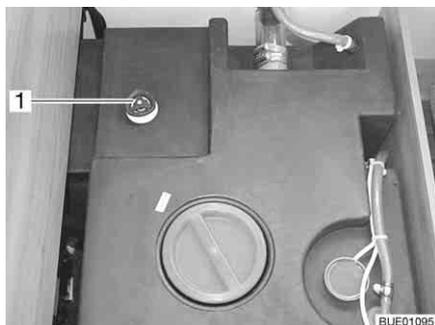
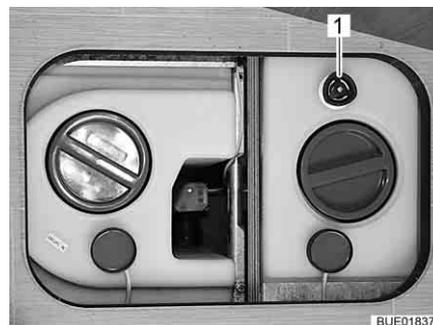

Fig. 231 Water tank with handle (Viseo)
Fig. 232 Water tank with handle (Elegance)
- Turn the handle (Fig. 231,1 or Fig. 232,1) on the water tank in a clockwise direction as far as it will go.
- Turn the handle (Fig. 231,1 or Fig. 232,1) on the water tank in an anticlockwise direction as far as it will go. The water runs out apart from a remaining amount (remaining amount with Viseo: 60 l, remaining amount with Elegance: 20 l).